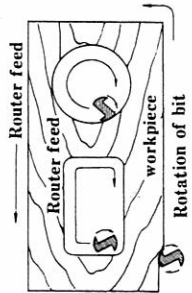

Fig. 11
- (2) The bit rotates clockwise (in arrow direction of End Bracket). To obtain effective cut results, use the router in conformity with the router feed direction shown in Fig. 11.